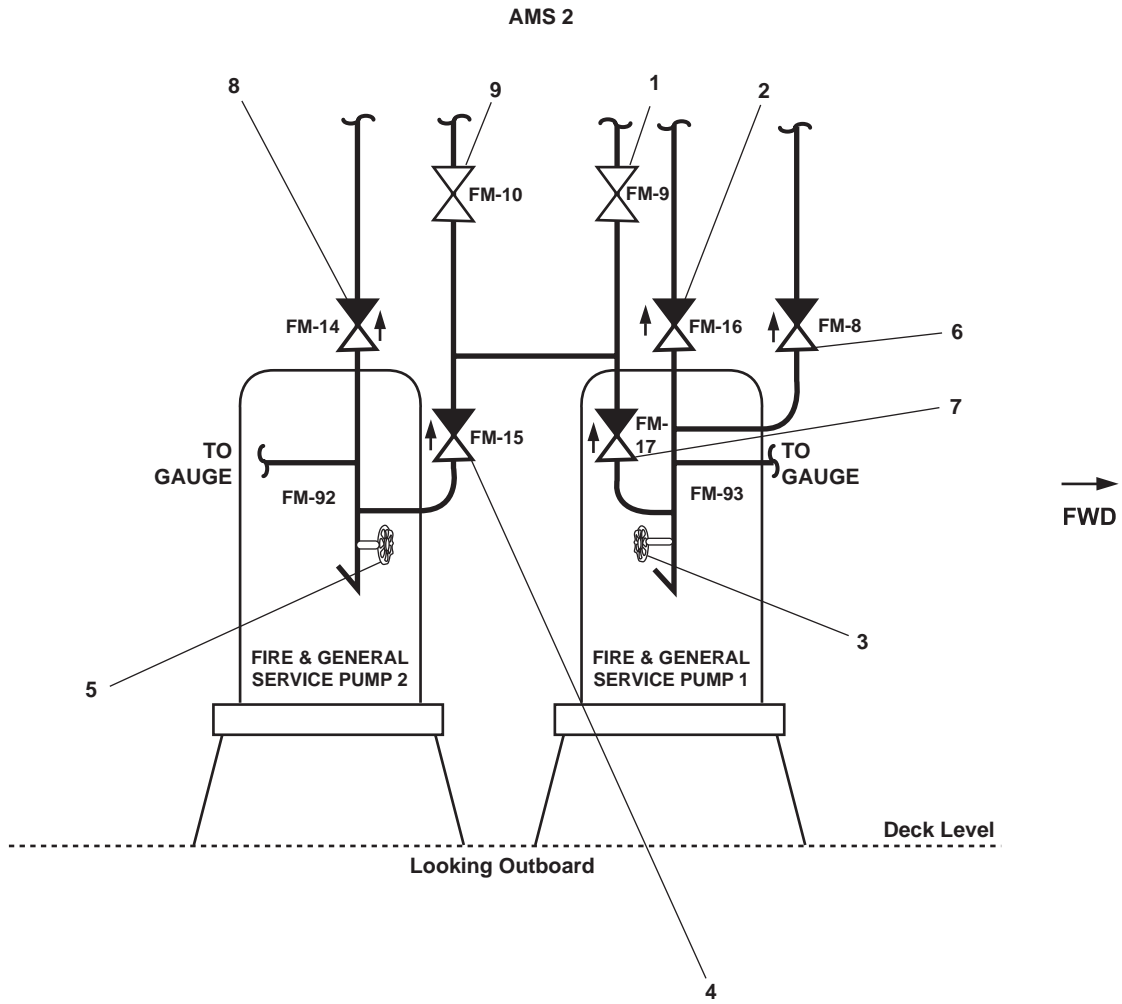

Figure 4. Fire and General Service Pump Discharge Valves
- (1) FM-9, GENL. SERV. PRESS. RED. VLV. CO. (figure 4, item 1), general service pressure reducer inlet valve.
- (2) FM-16, FIRE/G.S. PMP No. 1 DISCH TO FM (figure 4, item 2), fire and general service pump 1 discharge to fire main.
- (3) FM-93, FM DR (figure 4, item 3), fire and general service pump 1 pressure gauge line.
- (4) FM-15, FIRE/G.S. PMP. No. 2 DISCH TO GS. (figure 4, item 4), fire and general service pump 2 discharges to general service.
- (5) FM-92, FIRE/G.S. PUMP No. 2 SUCT (figure 4, item 5), fire and general service pump 2 pressure gauge line.
- (1) FM-8, EMG BILDE OVBD (figure 4, item 6), emergency bilge overboard
- (2) FM-17, FIRE/G.S. PMP No. 1 DISCH TO GS (figure 4, item 7), fire and general service pump 1 discharge to general service
- (3) FM-14, FIRE/G.S. PMP. No. 2 DISCH. TO FM. (figure 4, item 8), fire and general service pump 2 discharges to fire main
- (4) FM-10, GENL. SERV. PRESS. RED. VLV. MAN. BYPASS (figure 4, item 9), general service pressure reducer manual bypass valve